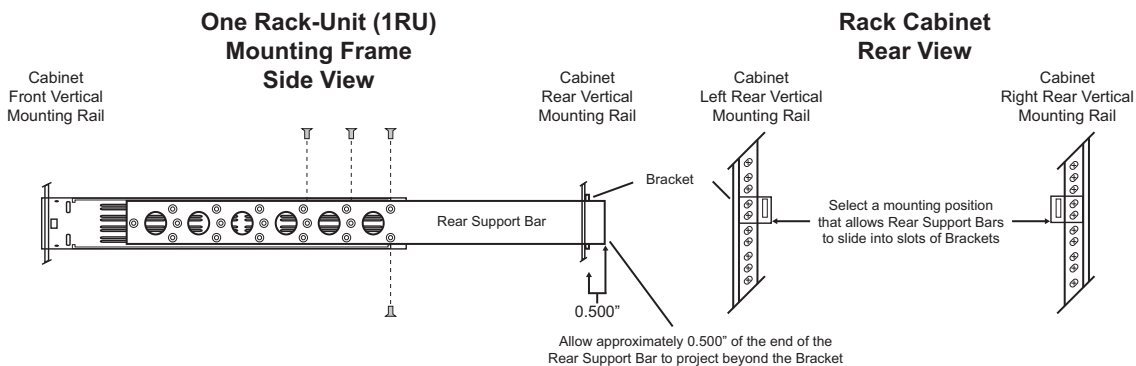

Figure 10 Installing the Support Brackets
In some cases, (mobile trucks, etc.) it may be desirable to also support the rear of the SRG-2200. The rear support bars can be attached to the SRG-2200 in six possible positions. (**Figure 10**)
2. Using four screws per bracket, as shown in **Figure 10**, attach both bars.